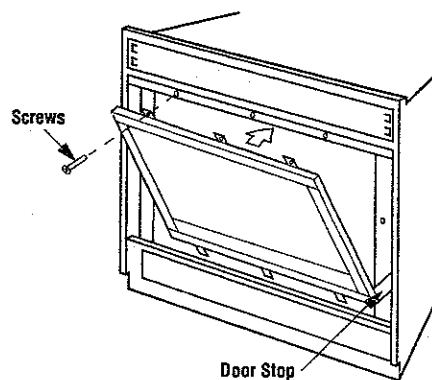

Figure 26
Position the door frame in front of the firebox opening, with the joint in the gasket down (Figure 26). Locate the three (3) tabs at the bottom edge of the door frame into the three (3) brackets at the base of the fireplace front opening. Lean the door frame back towards the fireplace ensuring that the gasket seats evenly as the door frame draws shut. Install the three (3) $\frac{1}{4}$ "-20 x 1" Phillips pan head screws removed previously and tighten to secure. Ensure that the tab on the bottom of the door frame engages the door switch.